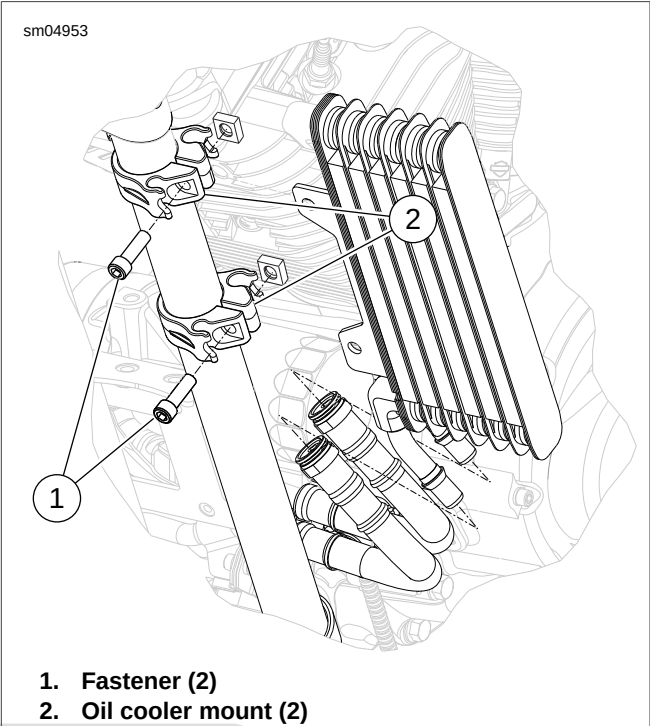

Figure 3-39. Oil Cooler Mounts
- 4. See Figure 3-39. Remove fasteners (1) securing oil cooler to frame brackets.
- 3. See Figure 3-39. Secure oil cooler to frame brackets. Tighten fasteners (1) to 36-60 **in-lbs** (4.1-6.8 Nm).